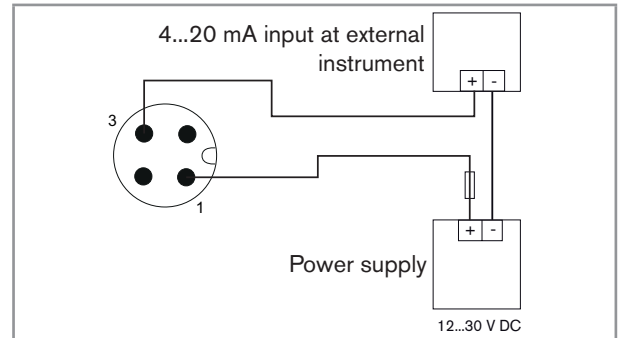

Fig. 7: Device with 4-pin M12 male connector – Connection of the current output
- Connect the 4...20 mA current output (2-wire connection). Refer to Fig. 7.